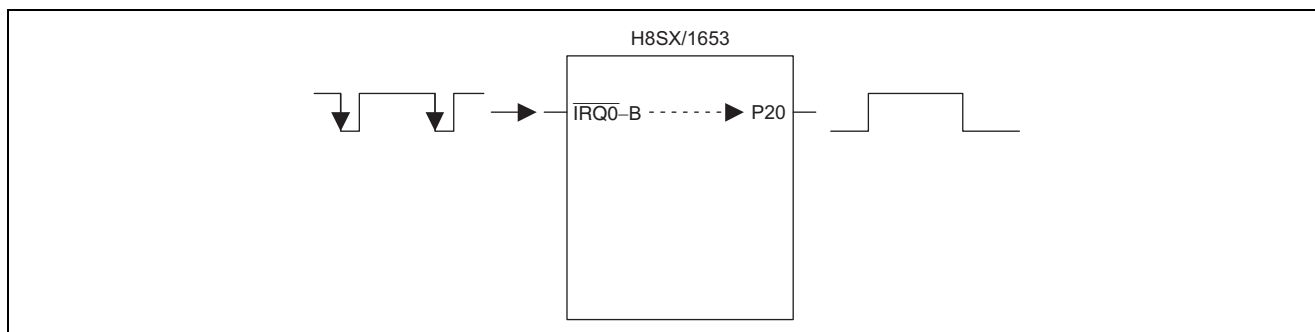

Figure 1 Operation of the Example for IRQ Interrupts
3. As is shown in figure 1, pin P20 has an initial value of zero and is toggled by IRQ0 interrupt processing.